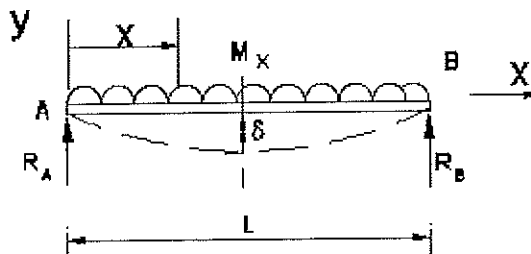

Fig.Q7
- a) A simply supported beam of length L carries a uniformly distributed load w along the length of the beam as shown in Fig.Q7. Show that the maximum bending moment of the beam, $M_{\max} = \frac{wL^2}{8}$